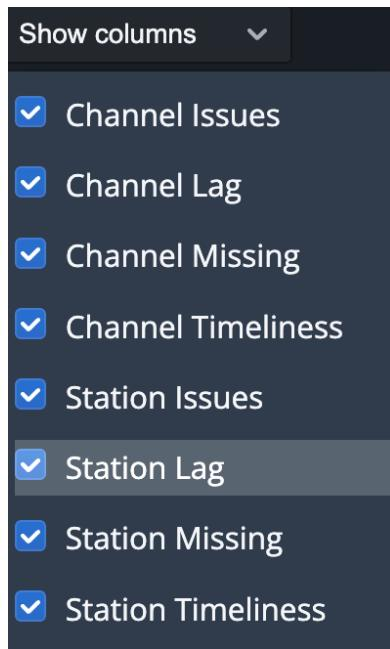

Figure 23. Station Statistics Column Dropdown Menu.
Specific columns can be selected for viewing by selecting the Show columns dropdown menu at the upper left of Figure 21. The dropdown menu is shown in Figure 23 below.
- 4) Columns can be added or removed by deselecting the column from the Show columns dropdown menu (see Figure 23). Note that the Station column cannot be removed.